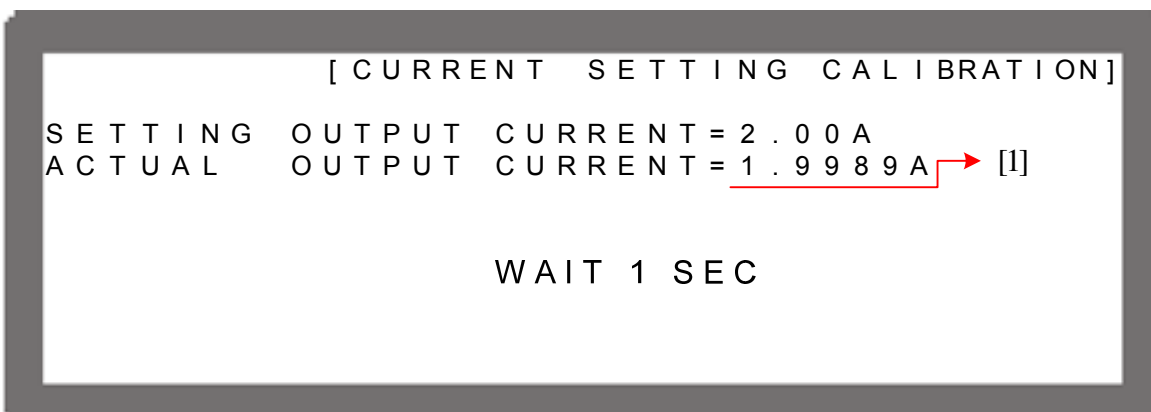

Figure 3-112
5. Press ENTER the system will set the output current to 2.00A automatically and appear second reading screen. Once the reading is done, the cursor will stop at position [1] as Figure 3-112 shows. Input the current (4 digits after decimal point) read by Current Shunt (DVM) and press “” to confirm.